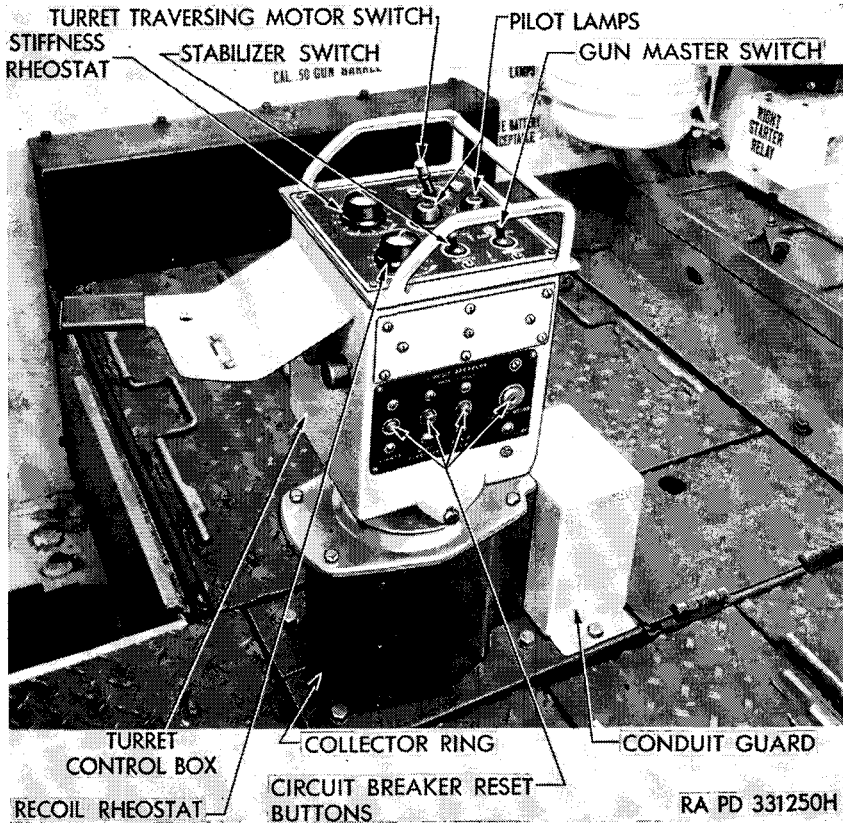

Figure 19. Turret electrical control switches.
c. POWER TRAVERSING. To rotate the turret with the hydraulic power mechanism, be sure the turret lock is disengaged (*b* above). Turn the toggle for the turret motor switch to its "ON" position (fig. 19). Move the clutch lever up to disengage the manual gears. The turret is now ready for hydraulic power control. Turn the hydraulic traverse control handle (fig. 18) counterclockwise to rotate the turret to the left. Turn handle clockwise to rotate the turret to the right. The amount the handle is turned determines the speed of rotation.